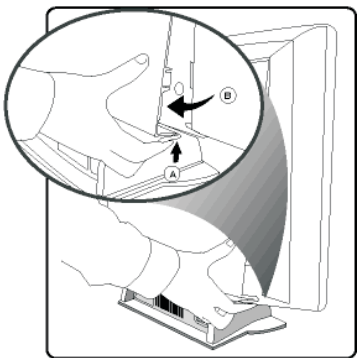

Fig. 1
- Step 1 : To remove the back cover, press up to disengage the clips on each side, then pull and lift as shown in Fig.1